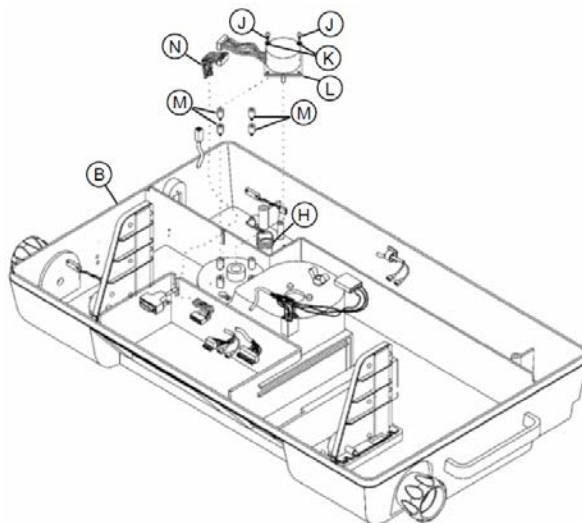

Fig. 48 Motor Assembly
- 26** Disconnect the motor assembly (Fig. 48/L) from the incubator motor-to-controller cable (Fig. 48/N).
- 27** Remove and retain the four screws (Fig. 48/J) and the four lockwashers (Fig. 48/K) that secure the motor assembly (Fig. 48/L) to the four Vibration Isolators (Fig. 48/M).
- 28** Remove and discard the motor assembly (Fig. 48/L).
- 29** Remove and discard the four Vibration Isolators (Fig. 48/M).